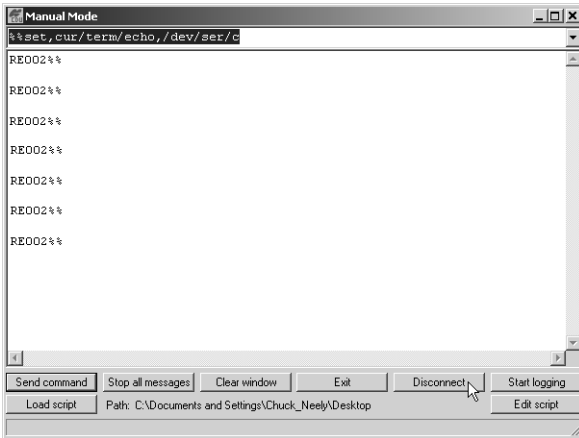

Figure 2-25. Manual Mode – Command Responses
The Manual Mode screen displays RE002%% in response to each of these commands. When finished, you should have seven responses (Figure 2-25 on page 2-32).
4. Click **Disconnect** (Figure 2-25).